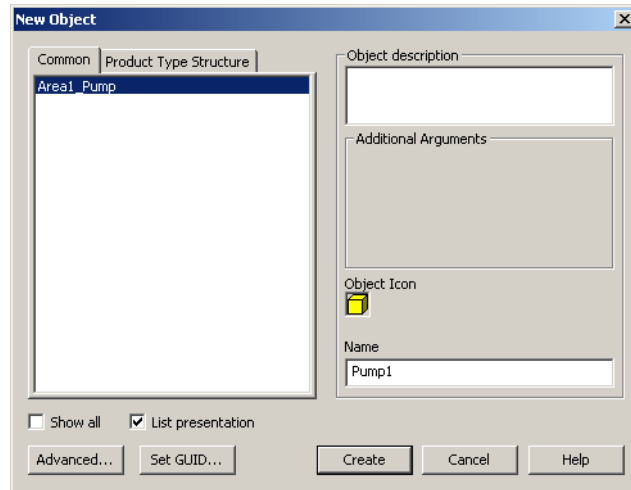

Figure 22. New Object Dialog
4. Click **Create**, Figure 22.